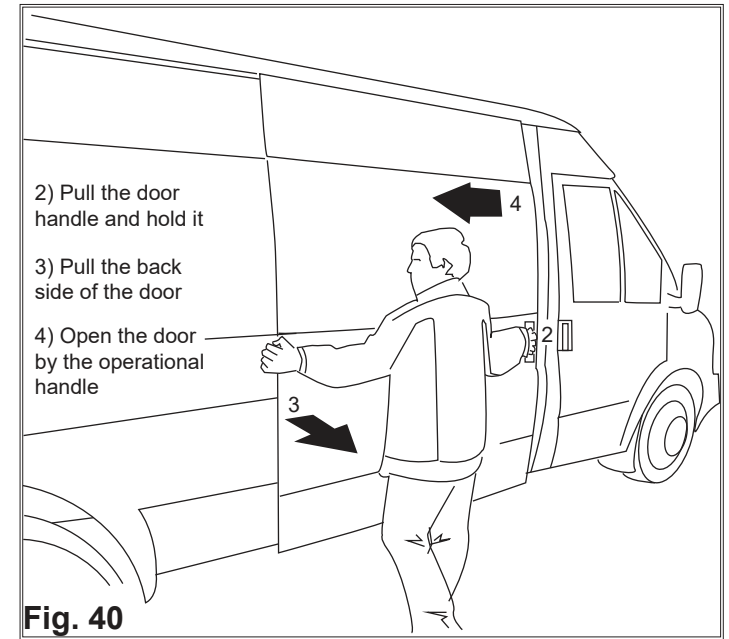

Fig. 40
2. Pull and hold the door handle (Fig. 40).
3. Pull the left-hand part of the door towards you (Fig. 40).
4. Open the door with the door handle to the left, (Fig. 40).